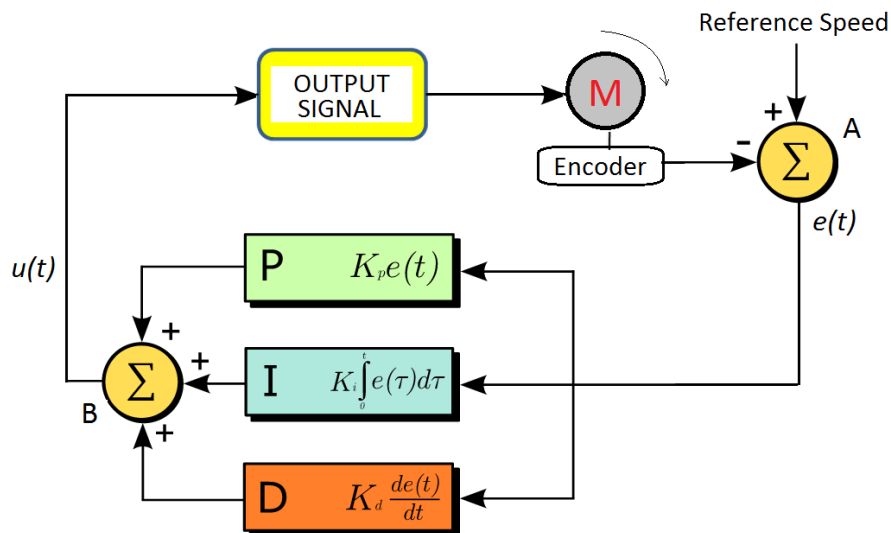

Figure 4.5a PID Control
PID is a control loop with feedback and is used in most industrial processes. It is a pre-defined procedure of output refinement process. Figure 4.5a is a typical PID motor speed control system.  $e(t)$  is the difference between motor speed and reference speed called error signal.  $e(t)$  signal is processed from 3 different parallel channels. These are Proportional (P), Integral (I) and Derivative (D) processes. All channels calculate correction signals with defined parameters and send refinement signal to B point. Sum of refinement signals creates output signal  $u(t)$ . Main functions of processes are described in the table below.